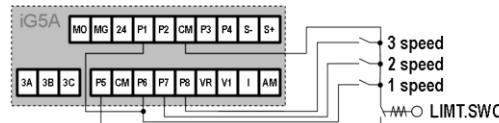

Figure 1
- Wire the I/O terminal of the iG5A inverter according to the Figure 1